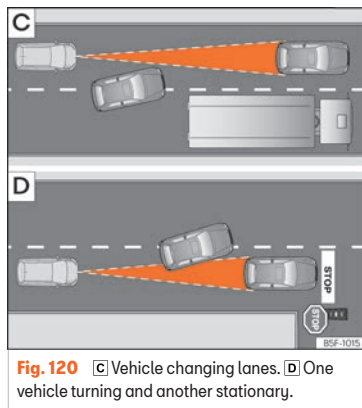

Fig. 120 [C] Vehicle changing lanes. [D] One vehicle turning and another stationary.
- Vehicles that move into your lane, a short distance from your vehicle >>> Fig. 120 [C].
The ACC does not react to stationary vehicles. If, for example, a vehicle detected by the ACC turns or moves over and there is a stationary vehicle in front of it, the ACC will not react to the second vehicle >>> Fig. 120 .